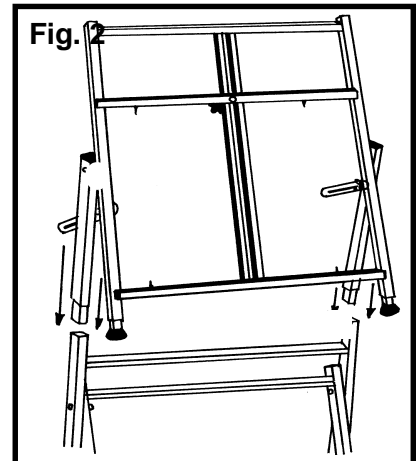

Fig. 2
4. Attach Art Material Shelf [C] by inserting it between the legs of the Lower Stand Assembly [B] legs and inserting the legs between rectangle cutouts on the Art Material Shelf [C]. Please Note: The Art Material Shelf is reversible which enables you to have the cutout for the Bob Ross® Brush Cleaning Bucket and Screen to be at the right or left hand side of your easel. See Fig. 2 at right